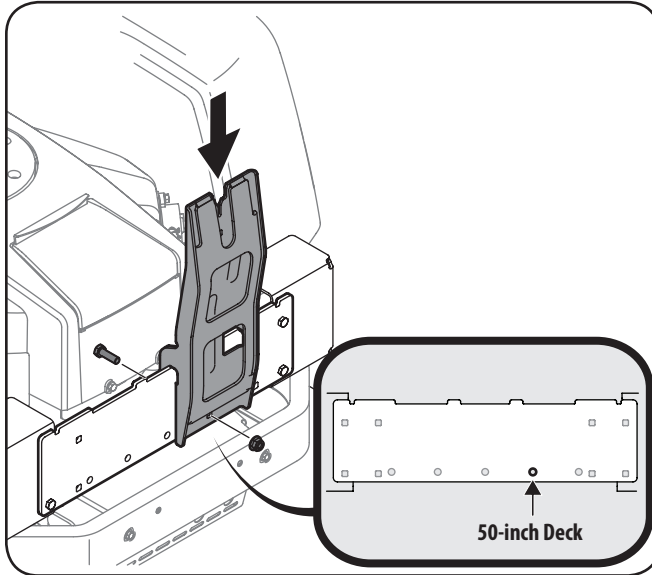

Figure 4-4
4. Install the upright support bracket onto the mounting assembly on the tractor by hooking it over the mounting assembly as shown in (1) Figure 4-4.
- Secure the upright support bracket to the mounting assembly in the mounting hole just right of the center hole with a 710-0376 hex bolt and 712-04063 flange lock nut from hardware pack 689-00320. See Figure 4-4